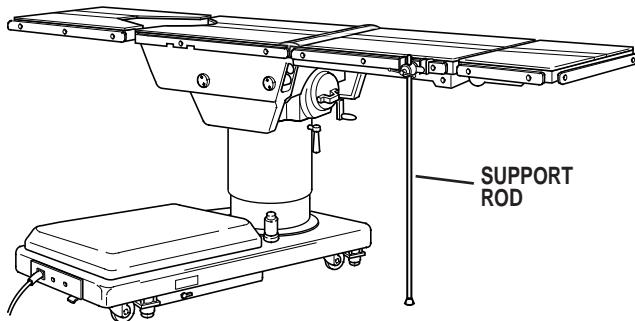

Figure 3-16. 90 Degree Top Rotation
**b.** The use of the optional support rod allows the table top to be rotated 90° from the base. See figure 3-16.